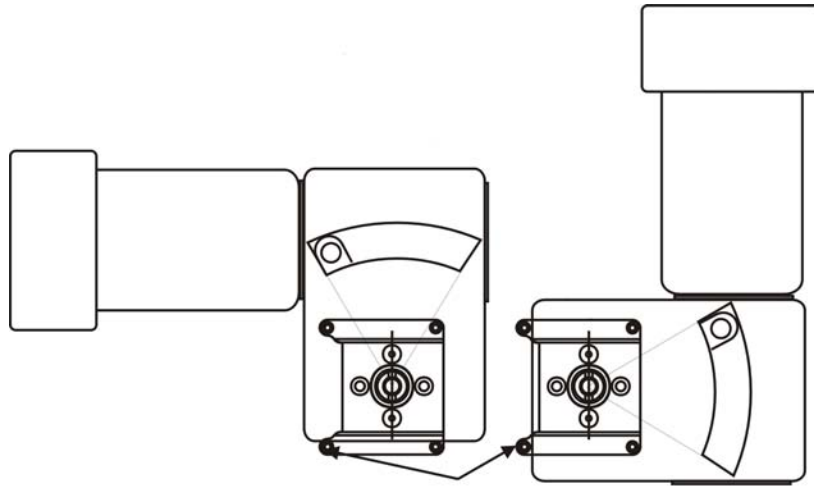
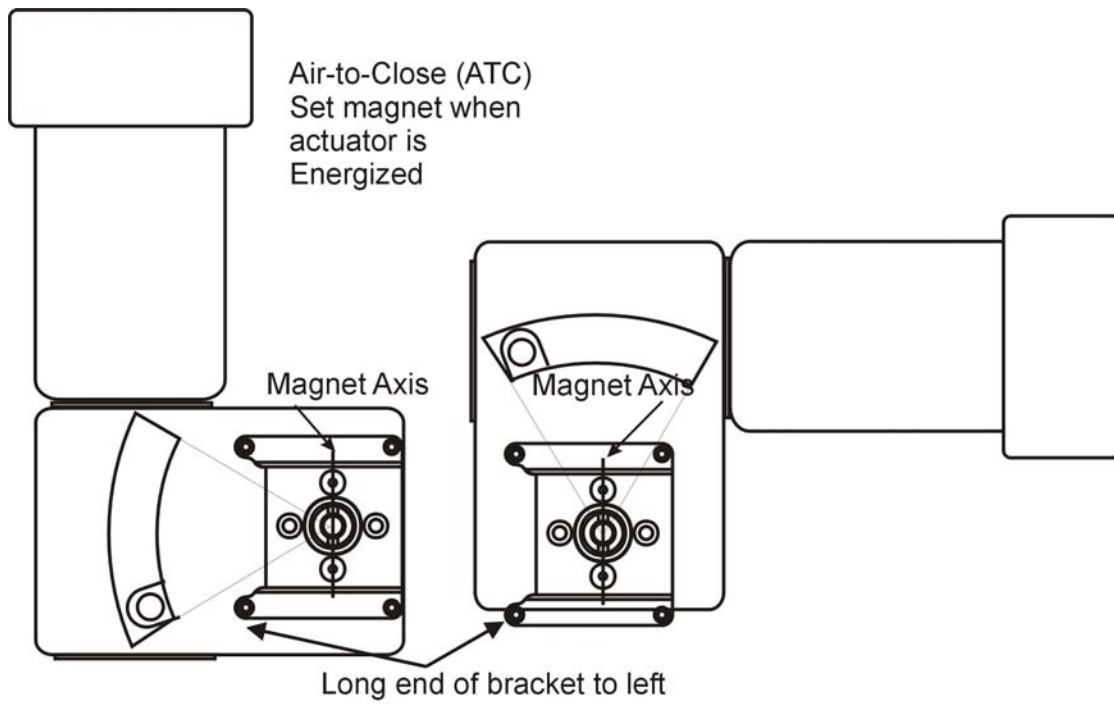

Figure 5 Camflex ATO Mounting (Front View)
Figure 6 Mounting Bracket on Air-to-Close Actuator
1. Attach the SVI II AP rotary mounting bracket to the valve actuator using two (2) 5/16 - 18 UNC flat-head cap screws. Mount the SVI II AP as shown in Figure 5 on page 15, ATO or in Figure 6 on page 15, ATC. In the preferred mounting position, the long end of the mounting bracket is on your left when facing the actuator, for any position of the valve and actuator.
6. Rotate the magnet holder so that the magnet axis is vertical when the valve is in the closed position. See Figure 5 and Figure 6.